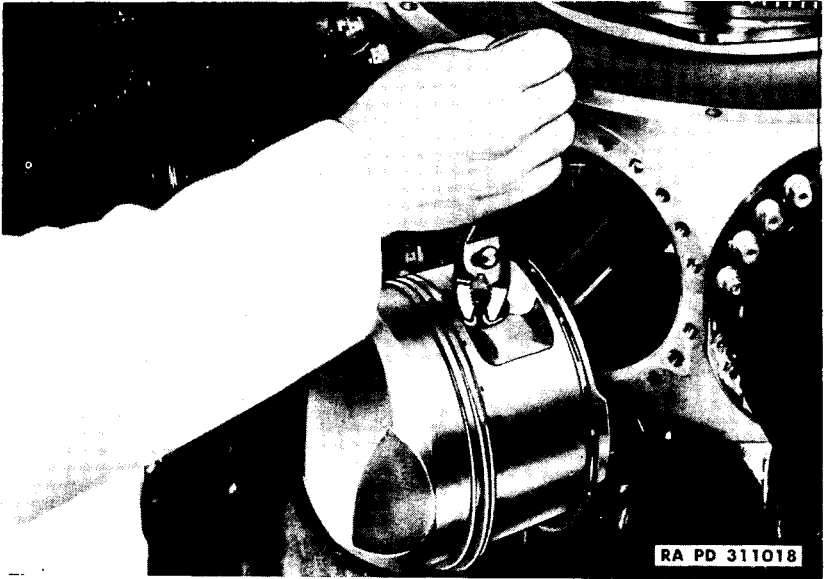
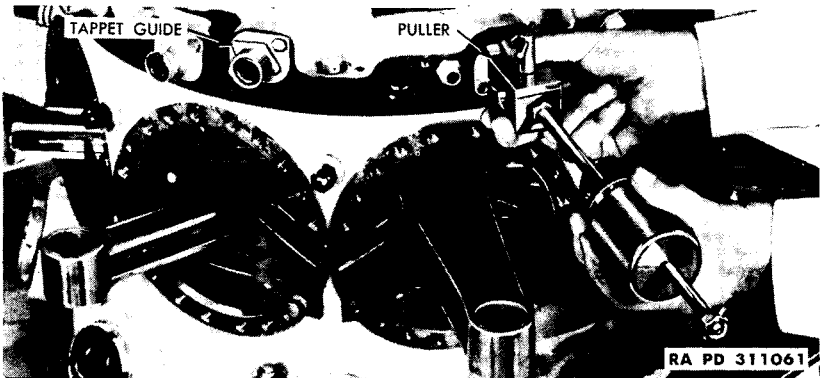
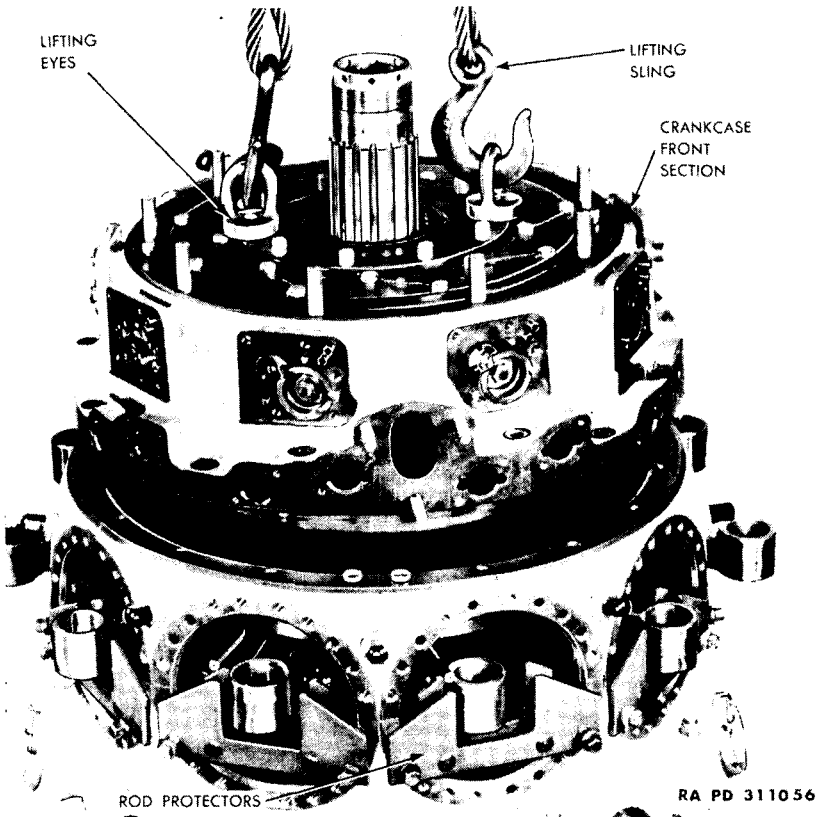

Figure 15—Removing Piston Pin Retainer
Figure 16 — Removing Valve Tappet Guide, Using Puller 5A2282
Figure 17 — Removing Crankcase Front Section, Using Sling 5A2228, Eyes 5A2317, and Protector 5A2159
No. 1 cylinder will be removed last. Turn crankshaft, using turning tool (5A2165) installed on propeller shaft splines (fig. 63) until piston in cylinder being removed is at top dead center. Remove lock wire from cylinder hold-down cap screws. Loosen cap screws, using wrench (5A2268). Remove cap screws and spherical seat washers from cylinder flange. Remove cylinder by pulling straight out until clear of piston. Install a connecting rod protector (5A2159) on cylinder pad, attaching it temporarily with two cap screws to prevent rod from striking crankcase (fig. 17). **CAUTION:** *Cylinder hold-down cap screws must be kept sorted so that each cap screw will be reassembled in the same hole from which it was removed.* Remove piston pin retainer (fig. 15) from side of piston at which piston pin is to be removed. Remove piston pin and lift off piston.
m. Remove Crankcase Front Section. Remove valve tappet retaining cap screws. Install puller (5A2282) over ridge on valve tappet guide and pull guide from crankcase (fig. 16). Remove tappets. Loosen thrust nut on the crankshaft with wrench (5A2297) and remove nut. Remove cap screws attaching crankcase front section to crankcase main section. Remove crankcase front section using lifting eyes (5A2317) (fig. 17). Remove spacer, ring assembly, and cam driving gear.